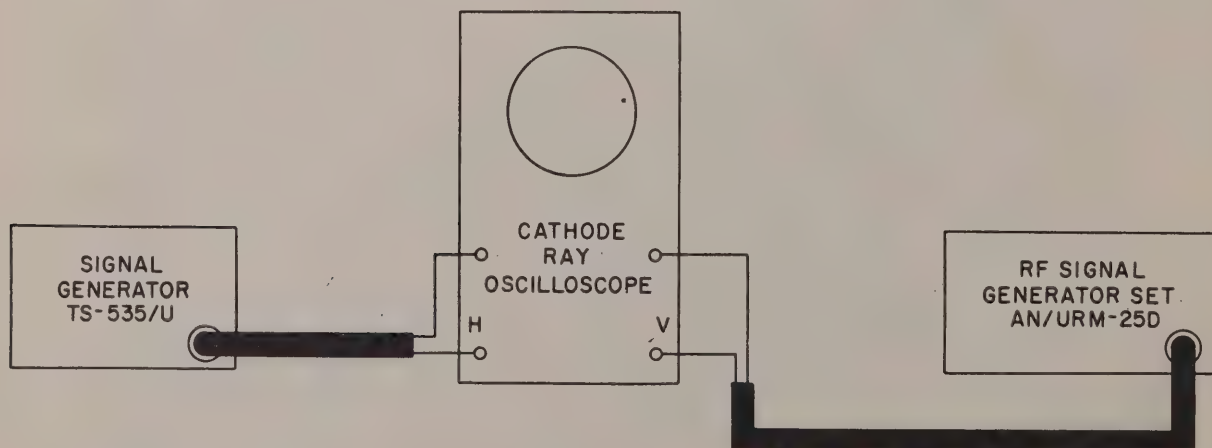

Figure 6-12. Method for Calibrating the RF Signal Generator Set AN/URM-25D at Frequencies Below 100 Kilocycles
(See figure 6-12).
(See figure 6-12 and Table 6-1).
c. CALIBRATION PROCEDURE (See figure 6-12 and Table 6-1)
(3) After the adjustment has been made, replace the plate and plug and recheck calibrations. If the calibrations have been changed when this plate is replaced, readjust the applicable trimmer or core to compensate for this effect.
MODULATION CRYSTAL VOLTMETER	9. If the meter still does not respond to the % MOD-AUDIO OUT-XTAL CAL OUT control (R165), feed the output signal from the X-200K RF OUTPUT jack (J101) to a test oscilloscope. Set the carrier frequency at 100 kc. Place the MOD-XTAL & METER SELECTOR switch (S102) in the CW position. Advance the carrier control (R173) in a clockwise direction until a reading of "10" is obtained on the upper meter scale. With the external modulation applied as in par. 8 above, the modulated pattern should appear on the oscilloscope (figure 6-12). If it does, the trouble was in the modulation crystal voltmeter.